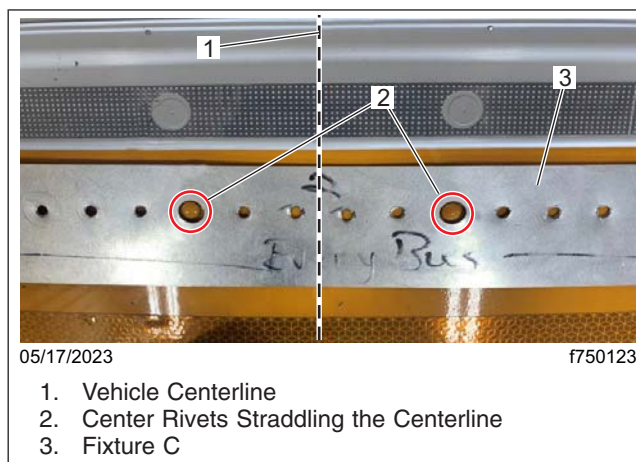

Fig. 19, Two Rivets Straddling the Centerline
- If the roof joint has two rivets straddling over the centerline of the vehicle, as shown in Fig. 19, use fixture C (TBB 242525).
27. The center rivet(s) should fit securely in the medium-sized hole, located near the center of each fixture, as shown in Fig. 19.